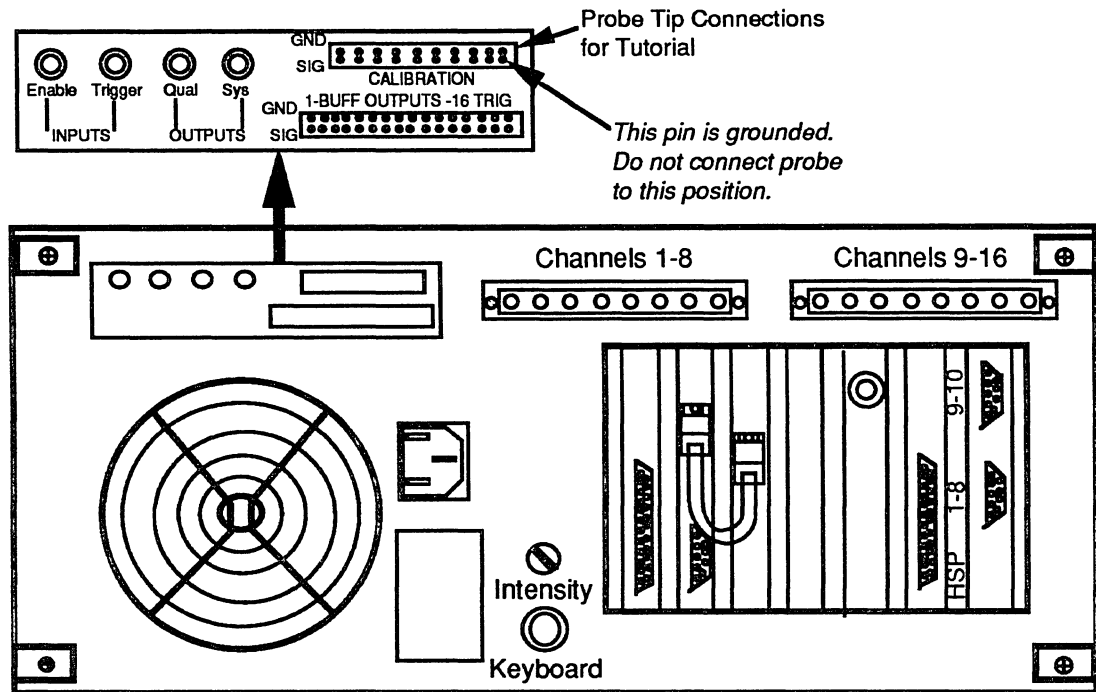

Figure 2-1. K1600 Rear Panel Details
Remove the K1600 instrument from its shipping container and check the packing list to verify the following items are present: (1) Model K1600 Instrument, (2) Two sets of Data Input Probes, and (3) AC line cord. Connect the AC line cord to the AC connector on the rear panel of the K1600 chassis (Figure 2-1) and to the facility AC power source.
Connect Data Input Probe tips for channels 1-8 to the Calibration Connector, also on the rear panel (see Figure 2-1). Observe the polarity symbols on the Calibration Connector; the blue stripe on the probe tip identifies the signal side of the tip, while the opposite side is common or ground. Each probe must have its own ground connection.